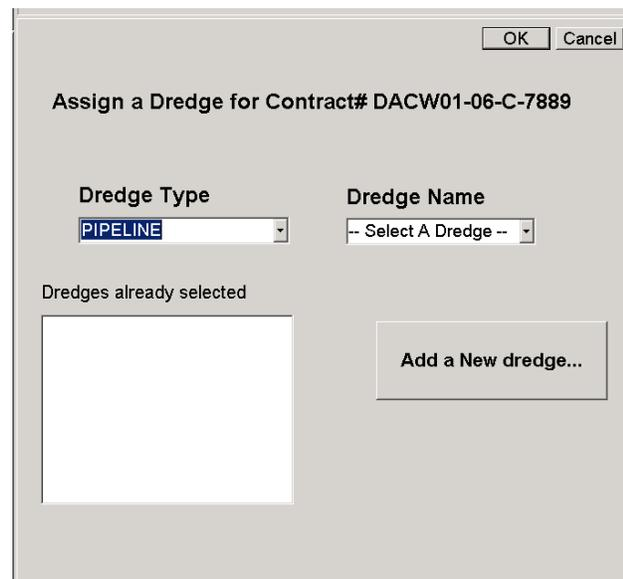

Figure 1.17 Dredge Assignment Window
3. The assign dredge window will now appear as in Figure 1.17. Use the Pull-down menu to select dredge type and dredge name.
3. In the assign dredge window as shown in Figure 1.17, select the type of dredge required for the contract from the *Dredge Type* pull-down menu.